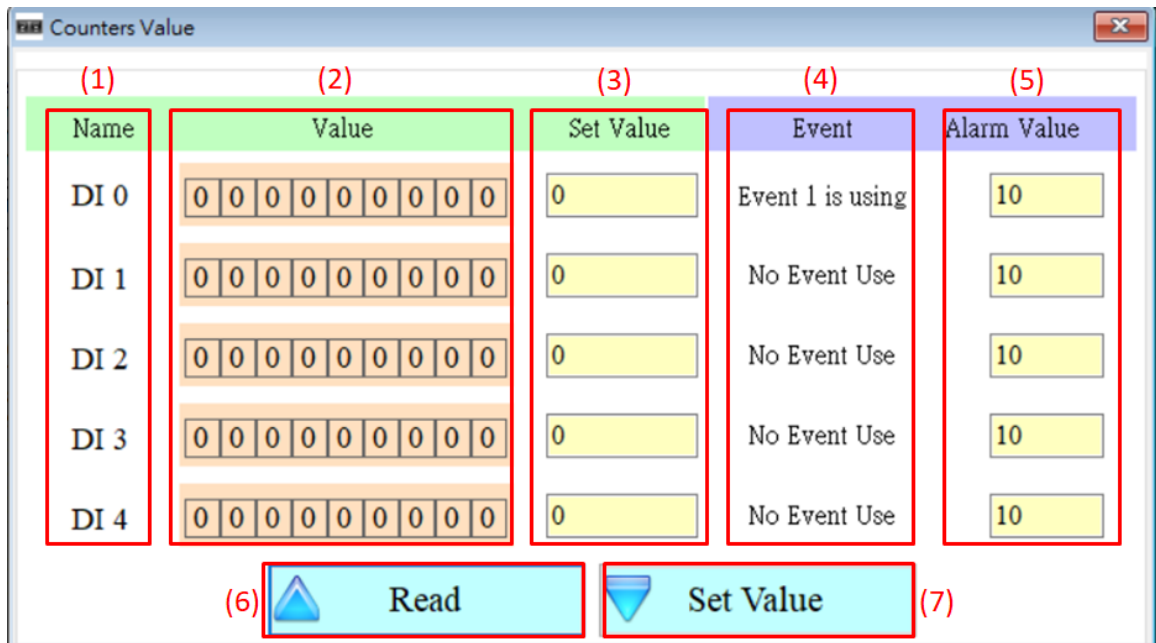

Figure 6.1.5
- D. Set the counter parameters, as shown in Figure 6.1.5
- (1) Counter name, Counter0~Counter4 corresponds to DI0~DO4.
- (2) Counter current count value.
- (3) Set the current value of the counter.
- (4) Counter usage status.
- (5) The value of the counter trigger alarm, which must be greater than the value of Set Value by more than 10.